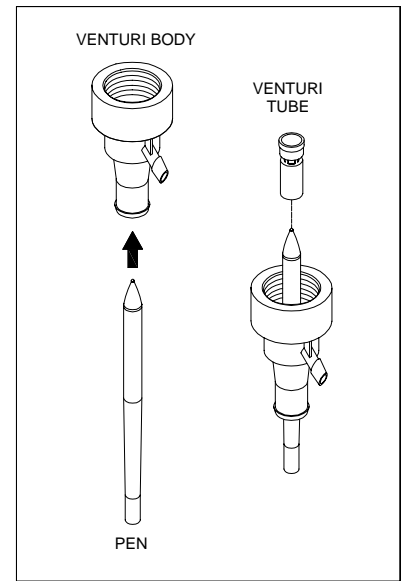

Figure 3
- (1) Disconnect tubing from venturi body.
- (2) Remove venturi body.
- (3) Push out existing venturi tube by inserting a pen up through the bottom of the venturi body — see Figure 3.
- (4) Insert the new venturi tube (for the desired flow rate) into the venturi body, ensuring that it seats firmly.
- (5) Thread venturi body back in place and hand-tighten.